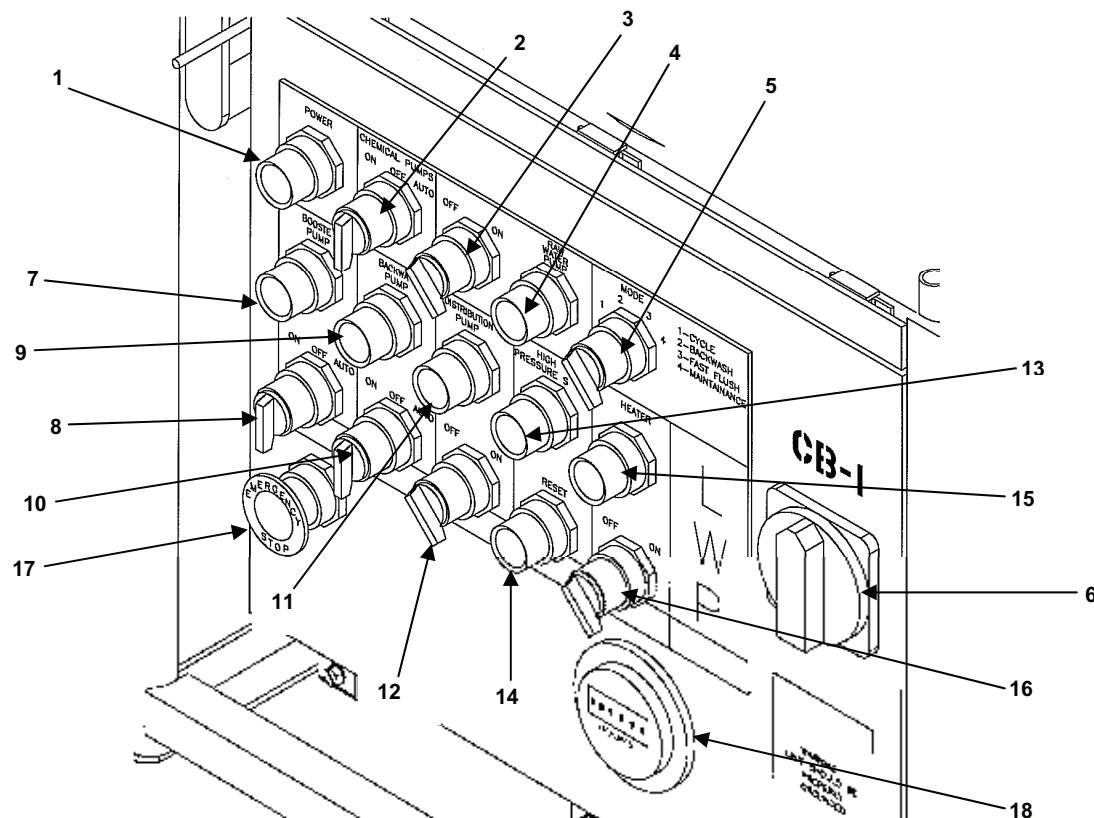

Figure 21. Control Module.
6. Disconnect the fabric hose (green) from the inlet (H) of the UF module so the hose can be flushed out. The hose will need to be reconnected to the UF module after being flushed for 5-10 seconds.
7. Place the BOOSTER PUMP switch (Figure 21, Item 8) and BACKWASH PUMP selector switch (Figure 21, Item 10) in the AUTO position on the control module. Green pilot light (Figure 21, Item 7) will light up. Green pilot light (Figure 21, Item 9) will only light up during backwash cycle.
- b. Disconnect the backwash pump discharge hose (yellow) from UF module backwash inlet (P).
- c. Place BACKWASH PUMP selector switch (Figure 21, Item 10) in the ON position on the control module.
- e. Reconnect the hose to the backwash inlet (P) on the UF module.